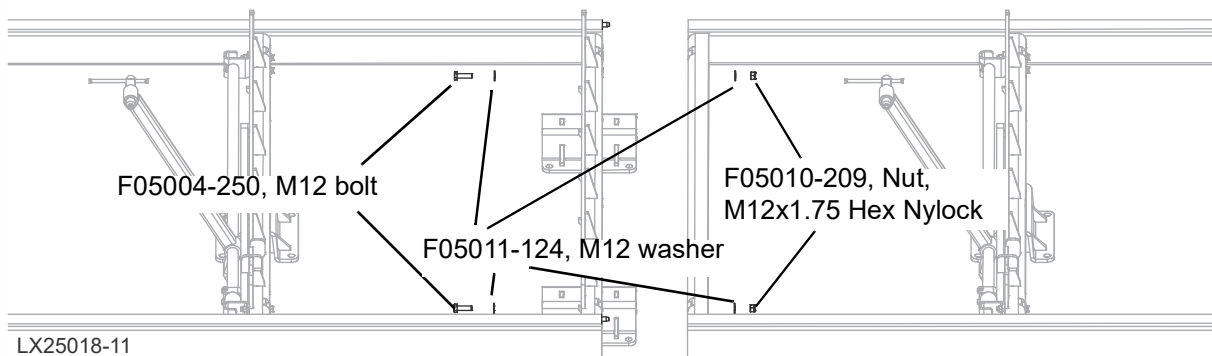

FIG. 3-8
9. Draw the bed sections together and secure with fasteners from the hardware bag. See Fig. 3-8.
See Figure 3-8.